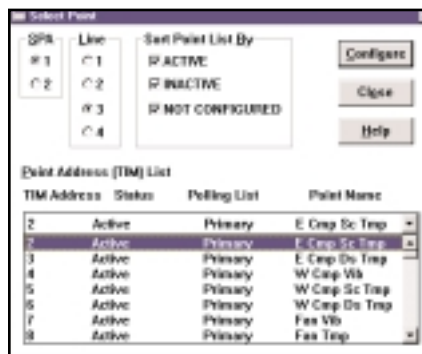

Figure 3. The Point Configuration feature allows you to sort points on a SPA line, and by activity.
3. Point Configuration now has a list box (Figure 3) that indicates the point names and activity of all the points connected to a selected Signal Processing Adaptor (SPA) line. This list can be sorted, based upon Active, Inactive, and Not-Configured status.